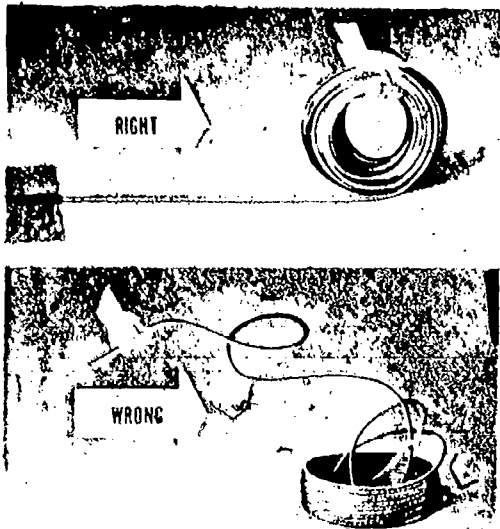

Fig 7-6. Right and wrong ways of removing wire from manufacturer's coil.
a. Unwinding. Wire rope may come either on a wooden reel or in a plain coil tied with rope or metal banding. In either case, the rope has been wound into a coil, and to remove it from the coil you must unwind it as shown in the top view of figure 7-6. If you pull it from the stationary coil, as shown in the bottom view, there will be a kink in the rope for every turn in the coil.